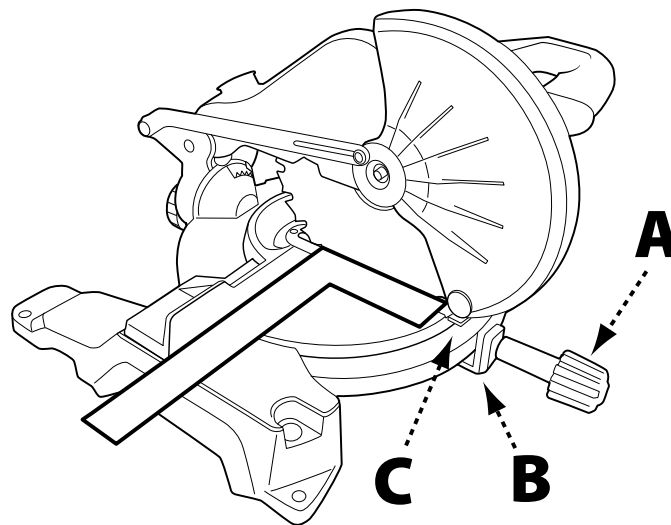

FIGURE 11
To check that the blade and fence are in square, refer to Figure 11 and do the following:
3. Loosen the miter lock handle (A), depress the miter lock plate (B) and position the table so that the scale indicator (C) reads 0°.
5. Place a framing square on the table with one edge of the square flush against the face of the saw blade, as shown in Figure 11.